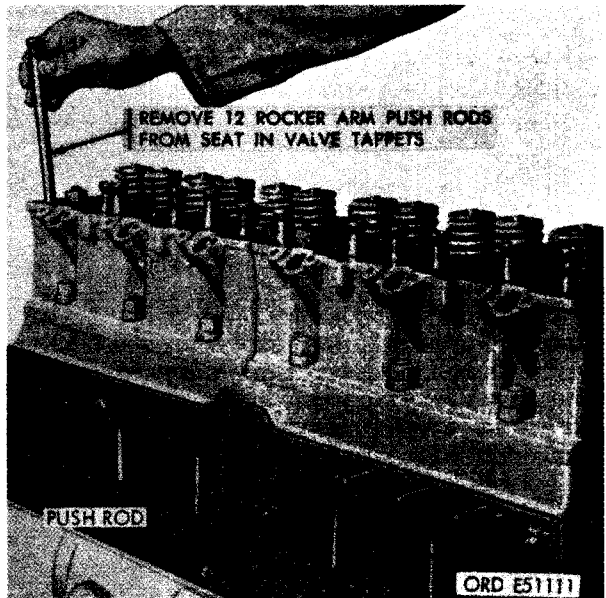

FIGURE 269. REMOVING OR INSTALLING ROCKER ARM PUSH RODS.
- (2) Refer to figure 269 and remove rocker arm push rods.